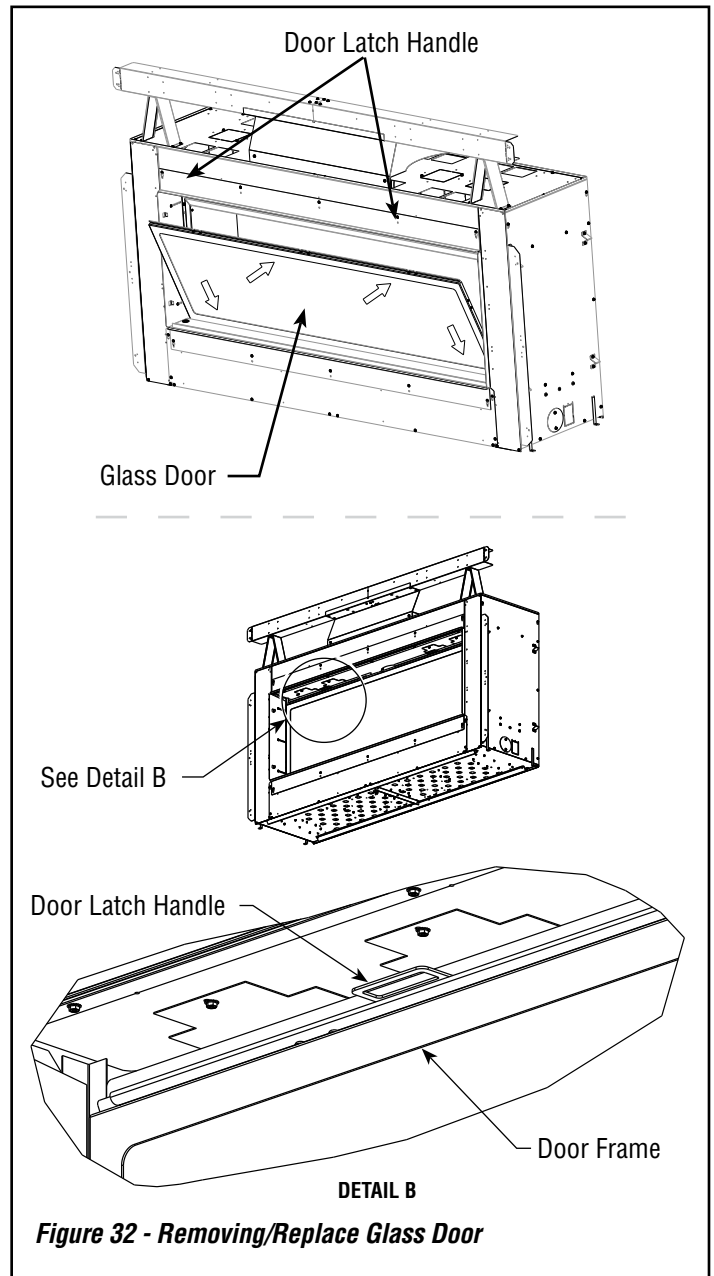

Figure 32 - Removing/Replace Glass Door
3. Tilt open glass door about 15° from the top of the firebox and lift up to release door from retaining channel (*see Figure 32*).
1. Position door frame in front of firebox opening tilting top of door about 15° toward you. Insert bottom flange of glass door into the retaining channel at the bottom of firebox (*see Figure 32*). Make sure door is center with firebox opening.